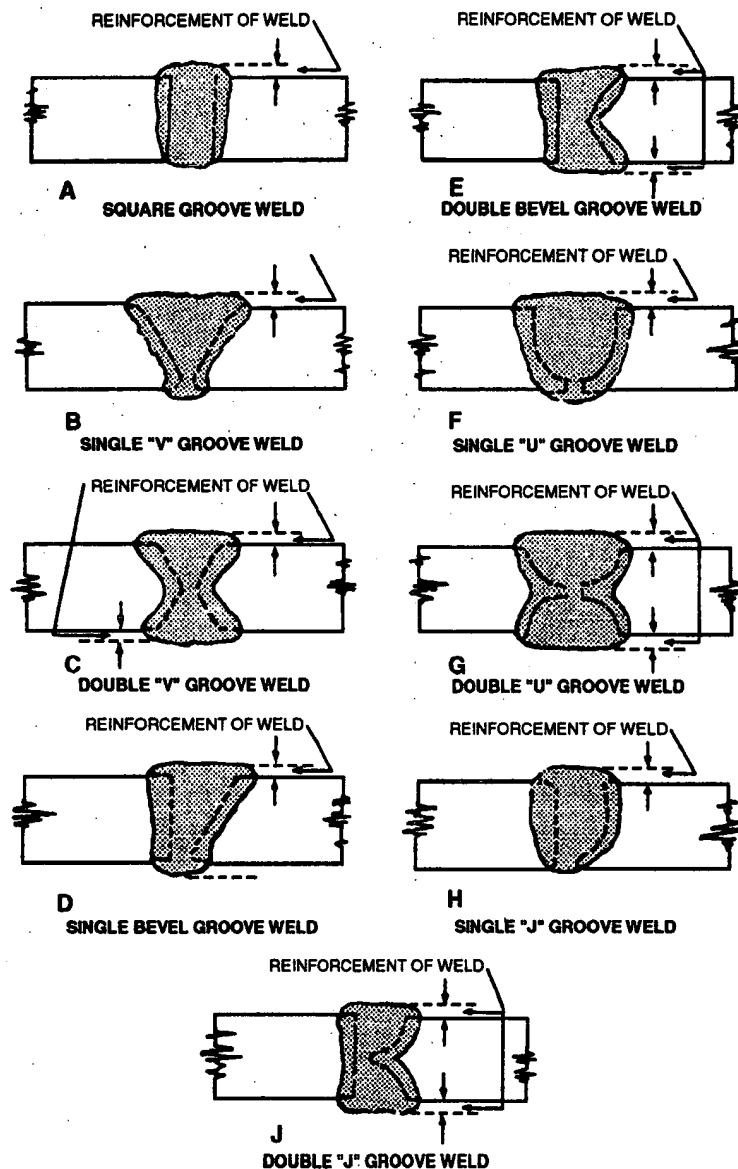

Figure 7-17.—Butt joints in the flat position.
**BUTT JOINTS WITHOUT BACKING STRIPS.**—A butt joint is used to join two plates having surfaces in about the same plane. Several forms of butt joints are shown in figure 7-17.